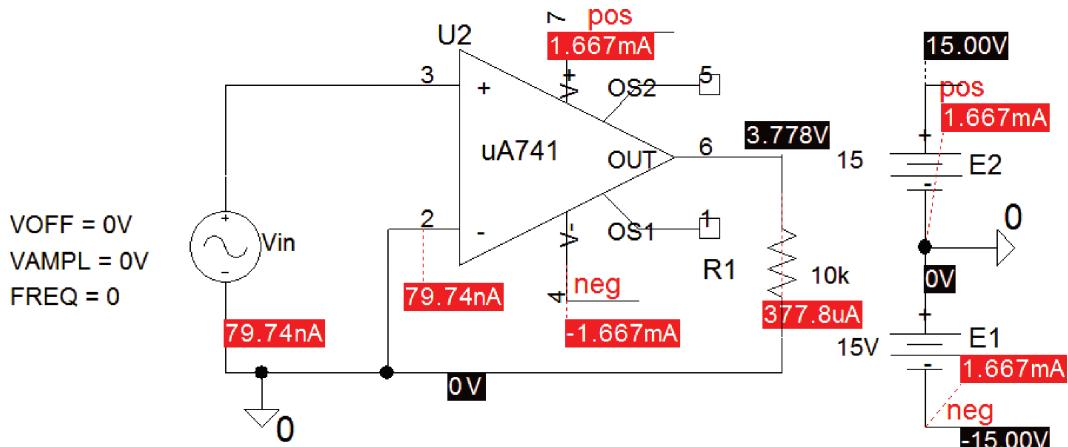

FIGURE 8.28: Open-loop measurements
- (1) Fig. 8.28 shows a schematic for obtaining the ua741 offset characteristics: The input offset voltage is the input voltage required to bring the output voltage to zero with zero signal voltage applied. The maximum, or short-circuit current is obtained using a small output resistance ($1 \mu\Omega$), and plotting the output current.